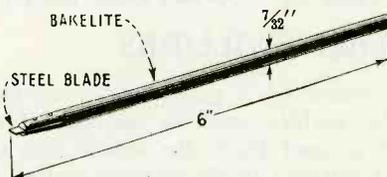

Figure 7—Dimensions of the non-metallic screw driver
A long, thin, non-metallic screwdriver. Such a screwdriver is shown in Figure 7 with its dimensions.
- (a) Procure a long, thin, non-metallic screwdriver (see Figure 7).